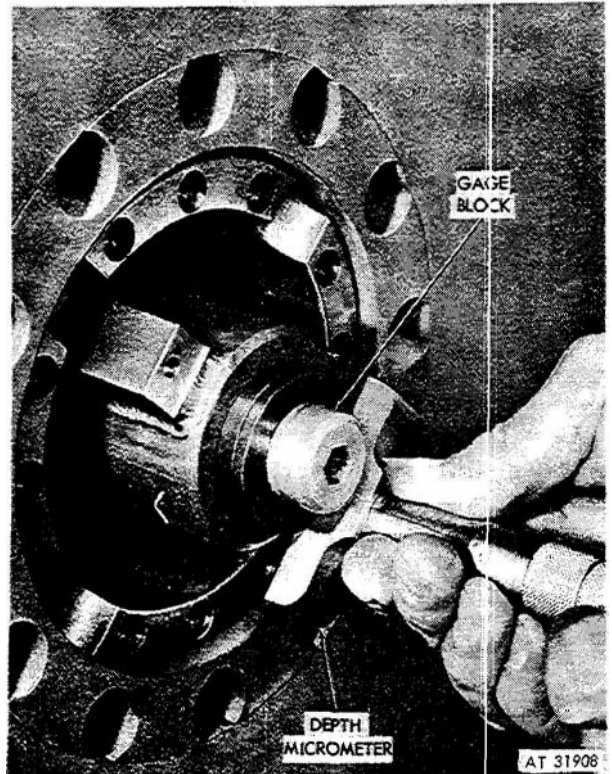

Figure 3-112. Taking measurement at gage block assembly (11660114).
(14) Determine the distance from the top of the compressed drive springs (8, fig 3-99) to the shoulder of the housing (18) containing the two roll pins (12) by using a suitable depth gage and measuring the distance from the top of the gage block assembly (6, fig 3-102) to the top of the gage block measuring pin. The distance should be 0.150 to 0.155 of an inch (fig 3-112).